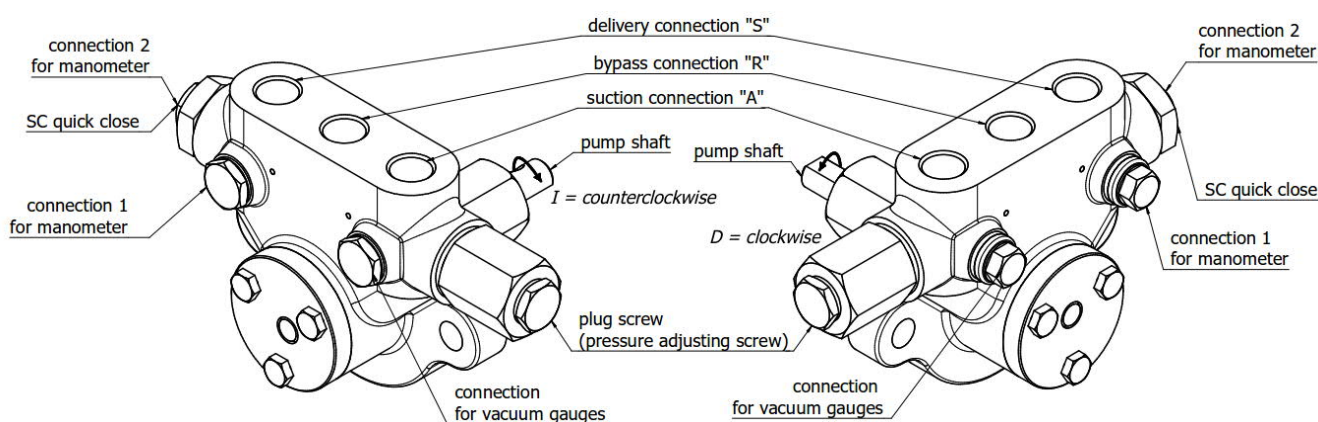

Fig. 1.
- The suction connection (see Fig. 1) of the pump is filled with oil. Then the suction line is connected to thread connection „A“.
- The pressure/delivery line connect to thread connection „S“ and the bypass line connect to thread connection „R“. When the pump is realized with SC (quick close) connection, the delivery line connect to SC. (Fig. 1)
- Remove the screw plug for connecting the manometer 1 / vacuum gauge (Fig. 1). The pressure gauge connected to port „A“ it shows the suction pressure and the pressure gauge connected to port „S“ it shows the delivery pressure. The pressure gauge connected to manometer 2 shows the delivery pressure. Observe using manometers with the right pressure range (according to the pump's pressure range).
- For pressure regulation, the plug screw (see Fig. 1) must be removed.